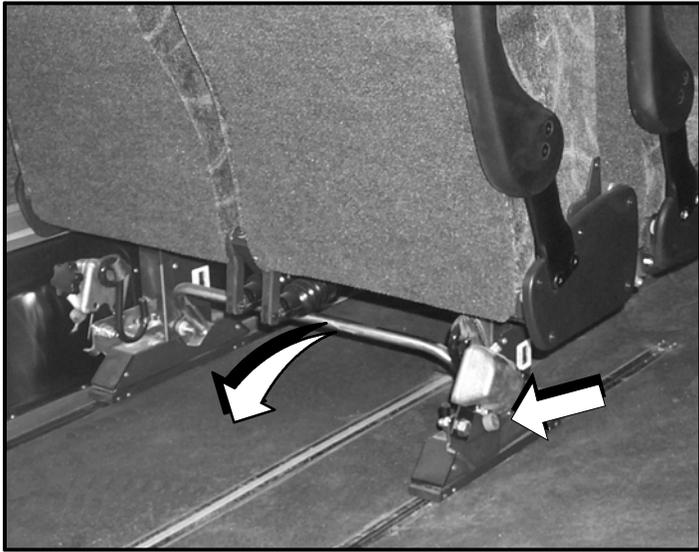

FIGURE 97
- Simultaneously, push the “press to release” button and the pedestal bar rearward (Figure 97),